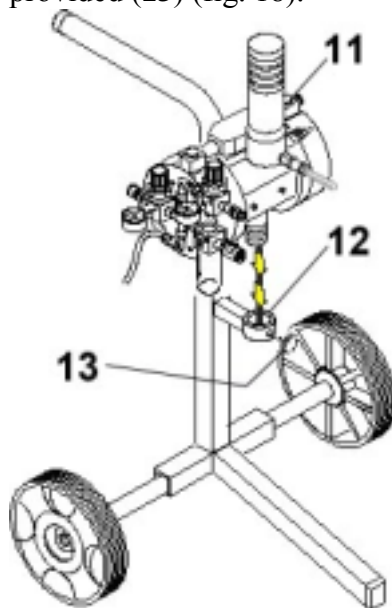

Fig. 18
- 7 Assemble the pump casing (**11**) onto the previously mounted frame by blocking the ring nut (**12**) using the screw provided (**13**) (fig. 18).